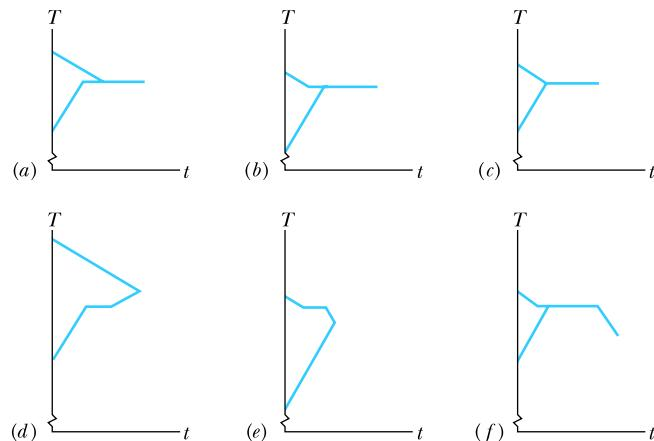

Figure 18.2 Questions 4 and 5.
- 5** Question 4 continued: Graphs *b* through *f* of Fig. 18.2 are additional sketches of T versus t , of which one or more are impossible to produce. (a) Which is impossible and why? (b) In the possible ones, is the equilibrium temperature above, below, or at the freezing point of water? (c) As the possible situations reach equilibrium, does the liquid partly freeze, fully freeze, or undergo no freezing? Does the ice partly melt, fully melt, or undergo no melting?